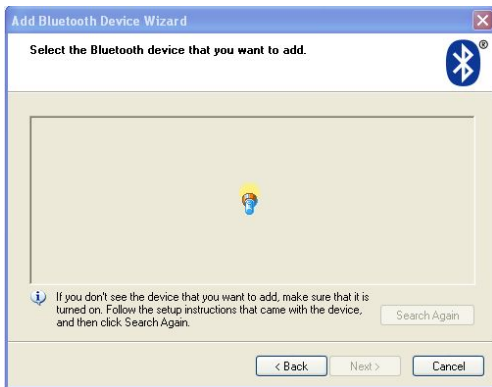

Figure 9
- 5) Tick the "My device is set up and ready to be found ", then the "Next" button is available to choose, click it to pop up dialogue box as Figure 9